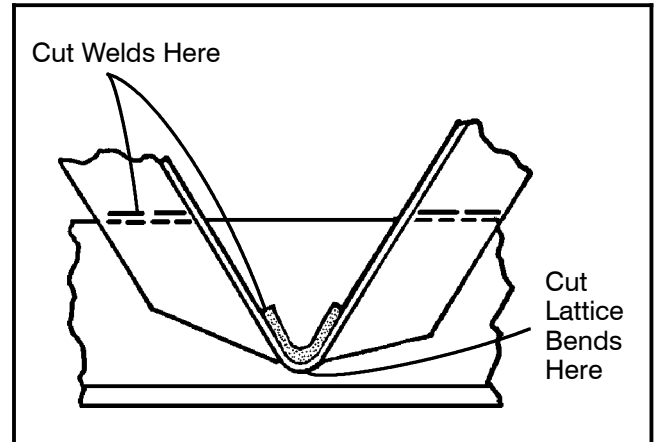
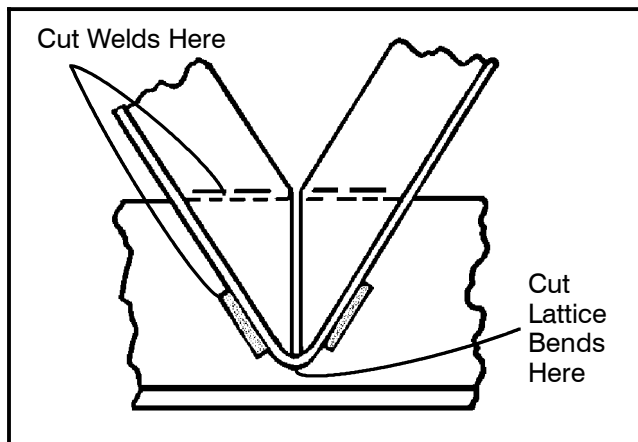

Figure 6
Figure 5
The lattice, diagonals, or braces must be removed from the chord by cutting out the welds at the chords or cross braces. In single piece replacement, the ends joining the chords must be cut as shown in either Figure 5, Figure 6, or Figure 7., using an oxygen-acetylene torch with cutting parameters listed in Table B. If more than a single piece replacement of adjacent pieces is required, then each bent section of the piece which is welded to the chord must be removed by cutting through these welds.
- b. Cutting through the center of the bent portion of the lattice at the chord as shown in Figure 5, Figure 6, and Figure 7.